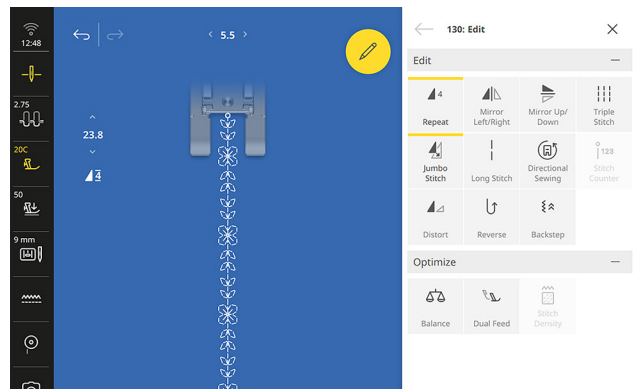

Fig. 13
8. Now scale the pattern down to 5.5 mm using whichever method for rescaling that you prefer (Fig. 13).